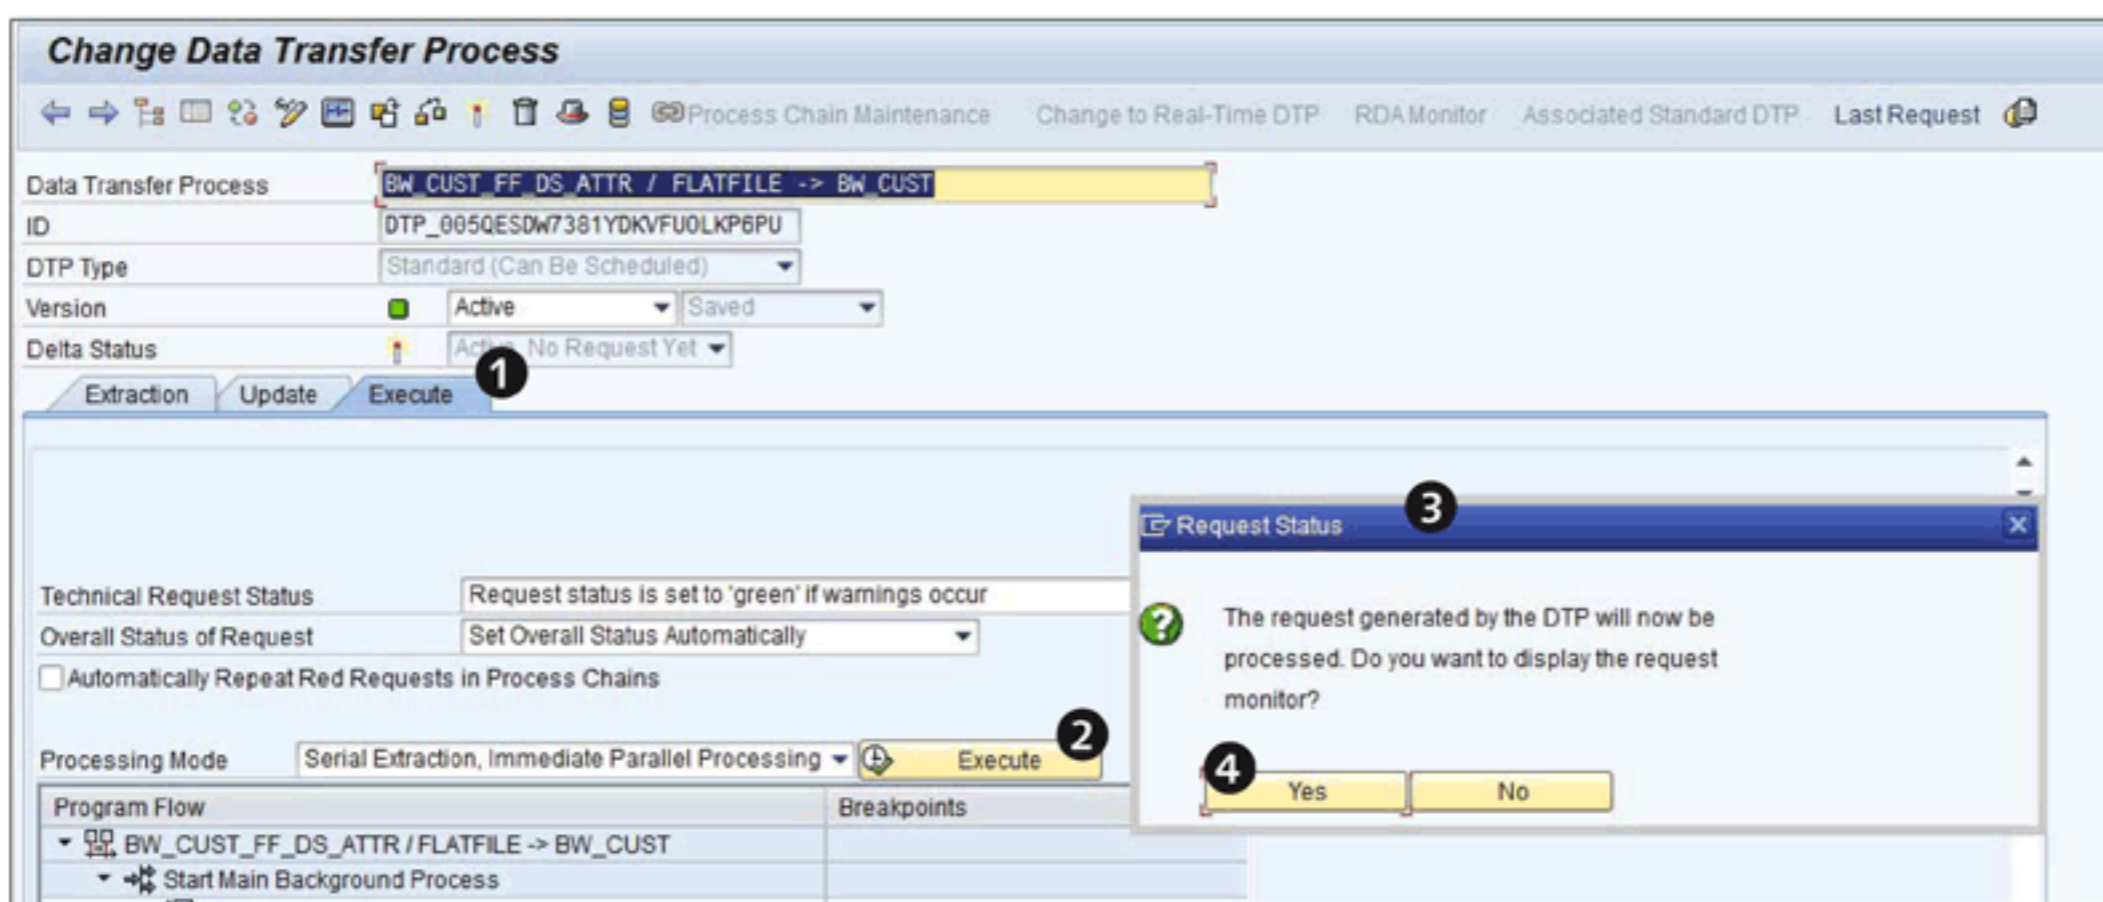

Figure 7.44 Executing DTP
This displays the CHANGE DATA TRANSFER PROCESS screen shown in Figure 7.44. Click on the EXECUTE tab (❶) (recall our discussion of this tab from Section 7.2.4), and click on the EXECUTE icon (❷). This results in the REQUEST STATUS box (❸).